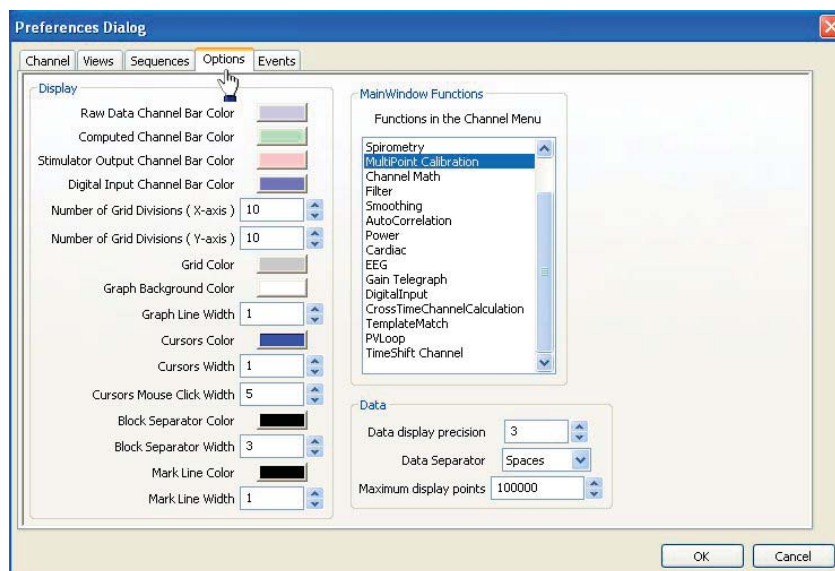

Fig. 43—Preferences dialog box, Options tab
**NOTE:** If **Research** was chosen as the operating mode during the installation process, then full access to all the functions was enabled. If **Teaching** mode was chosen, some options are masked, including the Multipoint feature. In Teaching mode, the Multipoint feature must first be enabled before performing a multipoint calibration. To enable a masked feature, open the **Preferences Dialog** window (**Edit>Preferences**) and select the **Options** tab (Fig. 43). From the **Main Window Functions** list on the right, highlight **Multipoint Calibration** and any other features to be enabled, and click the **OK** button.